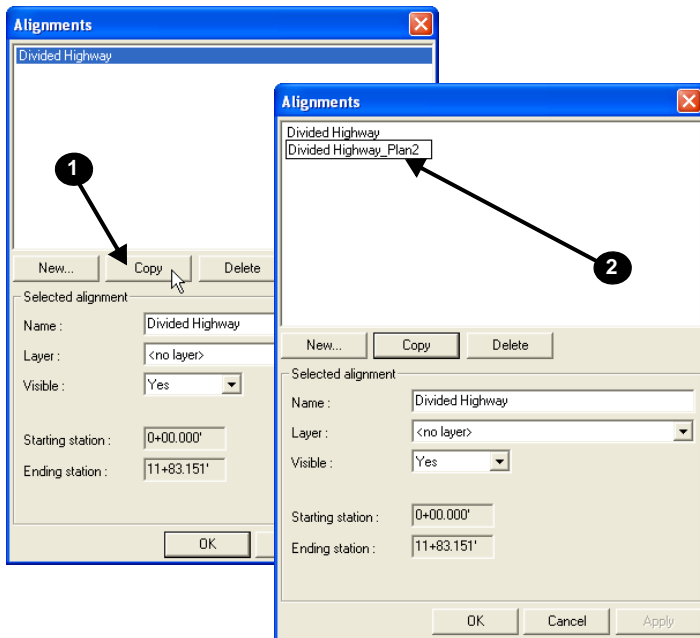

Figure 6-16. Copy and Name Alignment
1. On the *Alignments* dialog box, select the alignment to copy and click **Copy** (Figure 6-16).
2. Type a unique name for the new alignment and press **Enter** or click elsewhere on the screen (Figure 6-16).